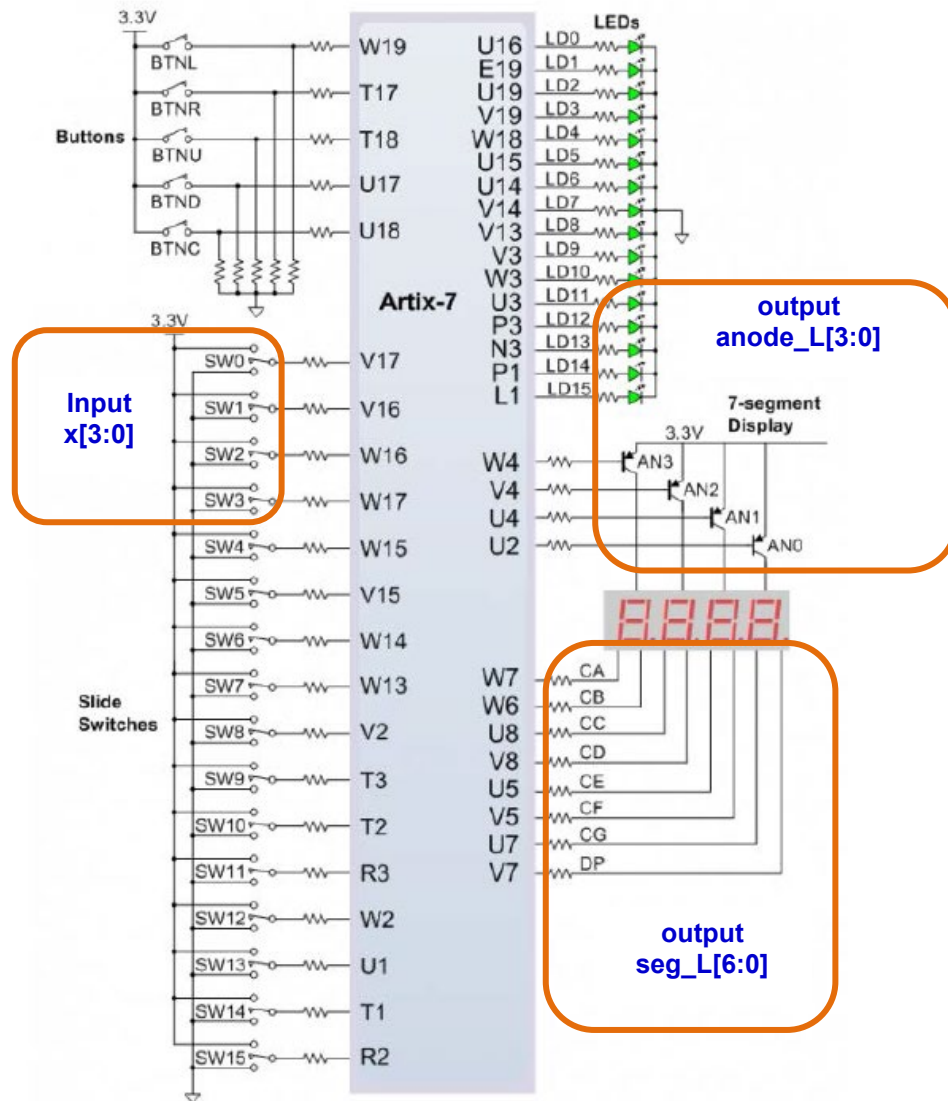
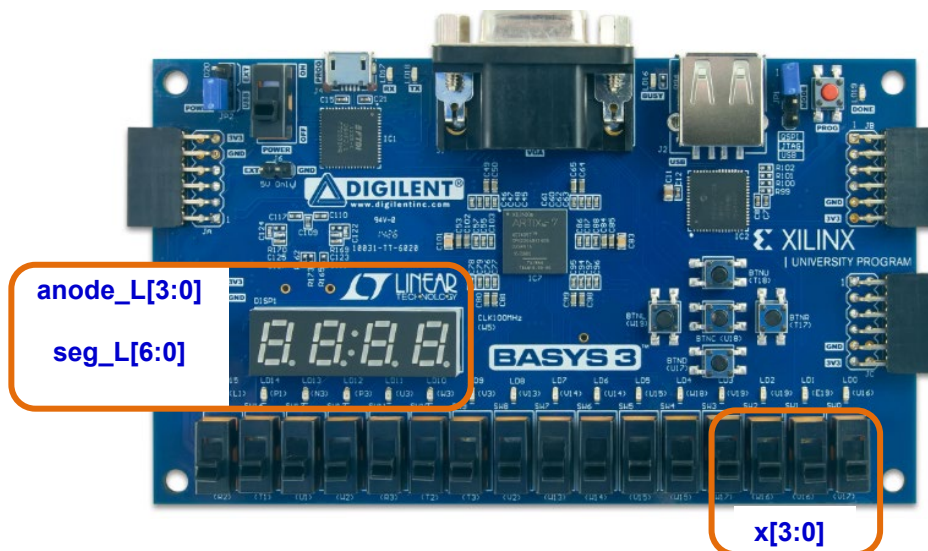

Figure 4: Basys3 basic input/output (I/O) schematic (source: Ref 8.4)
Figure 5: Basys3 board physical layout (source: Ref 8.4)
- 5.4.3 Figure 4 shows the I/O schematic diagram and Figure 5 shows the physical layout of the Basys3 board. The I/O mappings specified by *vsevenseg.xdc* are indicated in these figures.
- 5.5.1 In section 5.4, the two digits that are lighted up always display the same value. This is because the digits share the same value of CA-CG (mapped to seg\_L in Figure 4). However, Figure 4 also shows that the two digits can be turned on or off separately by AN1 and AN0.